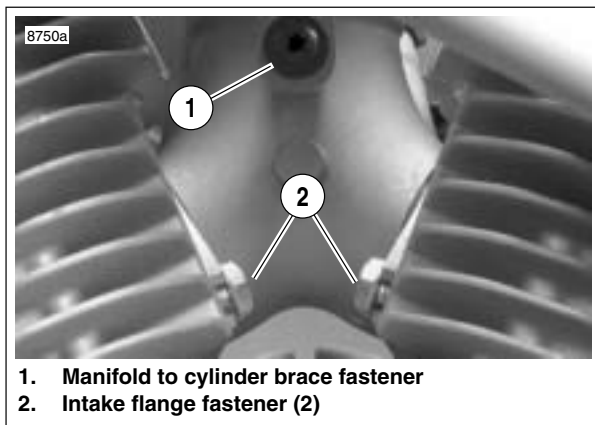

Figure 4-100. Intake Manifold (Primary Side)
- b. See Figure 4-100. Remove fastener (1) holding manifold to cylinder brace.